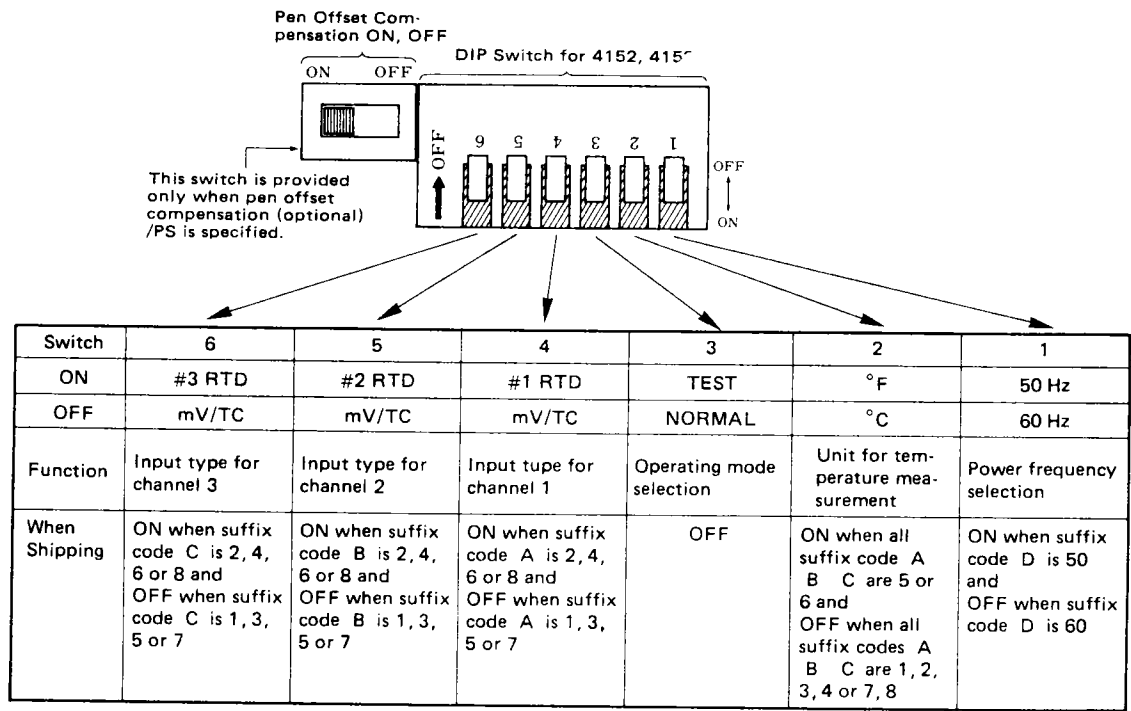

Figure 6-17.
- (b) A six pole type DIP switch is provided with the 2- and 3-pen models (see Figure 6-17).